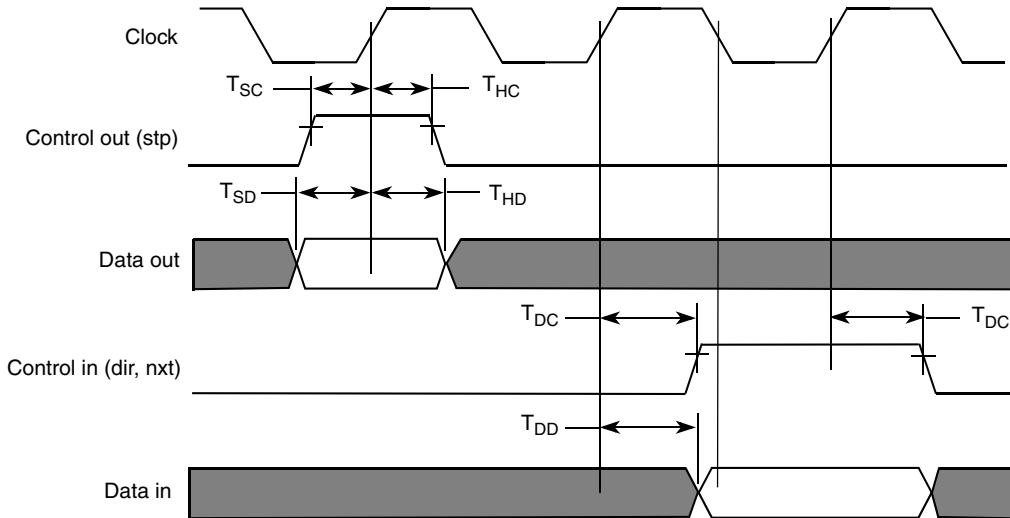

Figure 85. USB ULPI Interface Timing Diagram
The high speed (HS) interface is supported via the ULPI (Ultra Low Pin Count Interface). Figure 85 depicts the USB ULPI timing diagram, and Table 64 lists the timing parameters.